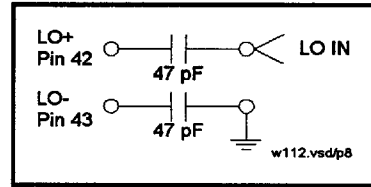

Figure 4. Single-ended LO Input
3. The LO port can be driven differentially or single-ended. The LO may be used single-ended by simply connecting the LO- pin (pin 43) to a 47 pF capacitor to GND (refer to Figure 4).